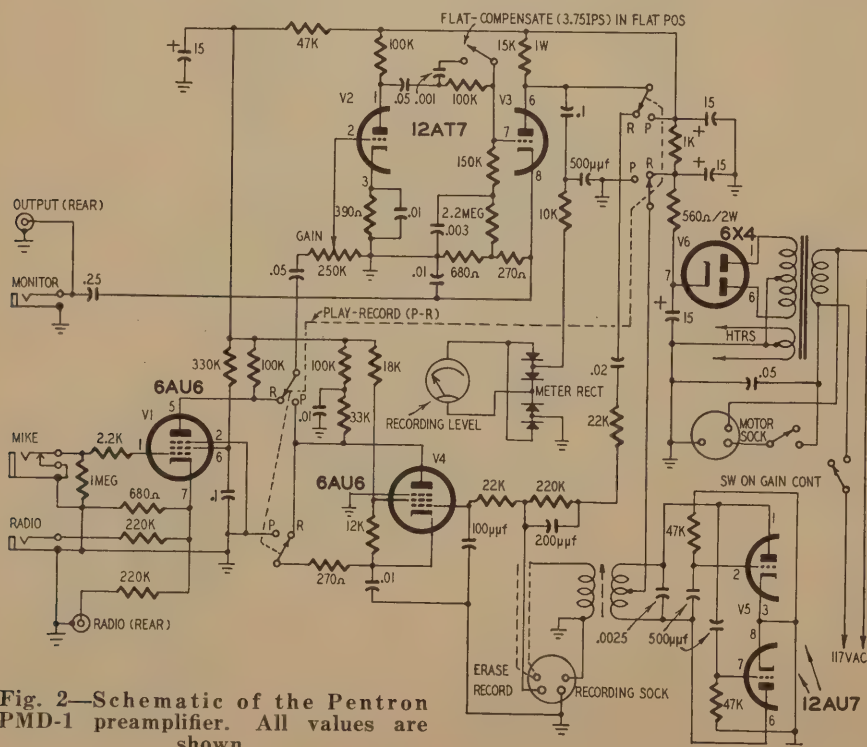

Fig. 2—Schematic of the Pentron PMD-1 preamplifier. All values are shown.
amplifier (Fig. 2) was tested and found free of distortion. The PMD-1 has a fair amount of degenerative feedback in the form of unbypassed cathode resistors. An oscilloscope check showed no visible distortion in the range of 20 to 15,000 cycles.
• NEW VALUE (SEE FIG. 2)